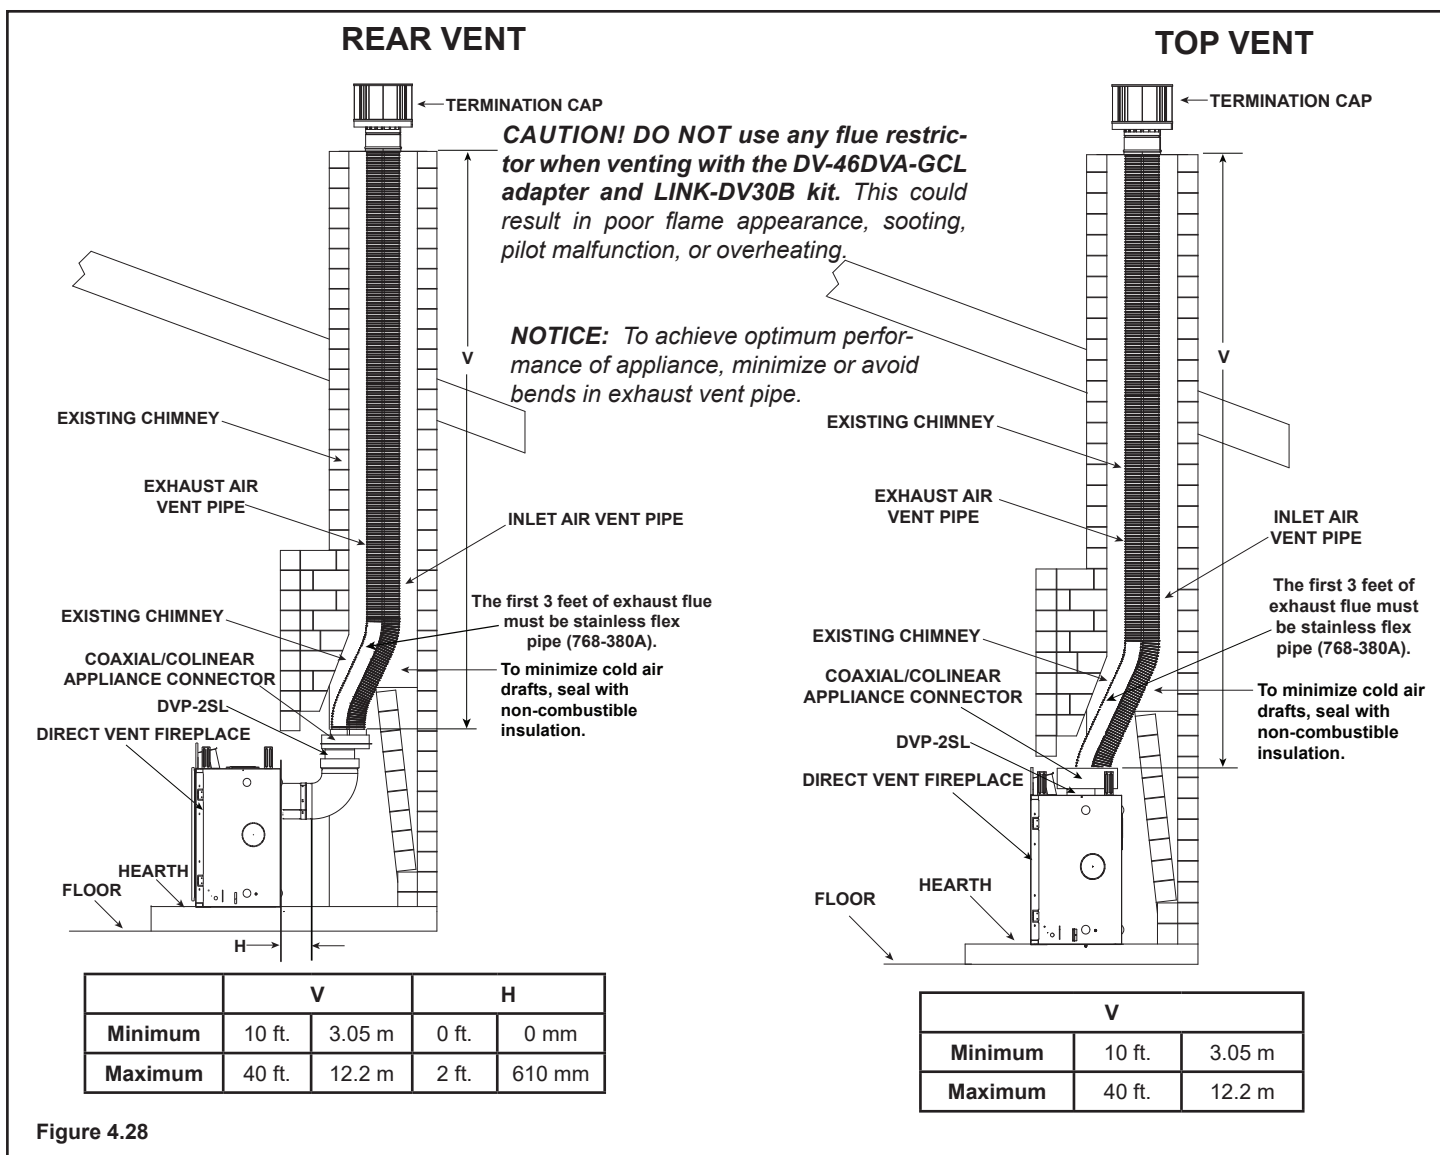

Figure 4.28
- Remove top seal cap and insulation if equipped. See Section 6, "Appliance Preparation." Attach the DVP-2SL to the 8 inch starting collar. Follow installation instructions included with DVP-2SL kit. Attach the DV-46DVA-GCL adapter to the appliance starting collar with 3-1/2 in. self-tapping screws. See Figure 4.28.
- Remove the rear seal cap and insulation if equipped. Connect the DVP-2SL adapter to the vertically positioned elbow. Follow installation instructions included with DVP-2SL kit. Secure DV-46DVA-GCL adapter to DVP-2SL with 3-1/2 in. self-tapping screws. See Figure 4.28.